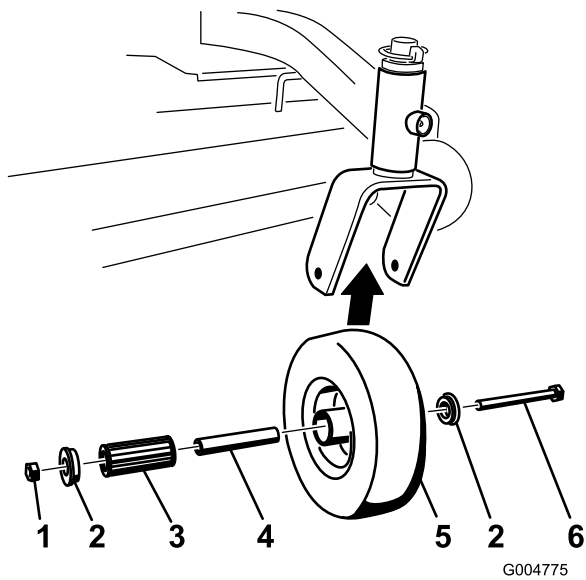

Figure 35
1. Remove the locknut and wheel bolt holding the caster wheel to the caster fork (Figure 35).
2. Remove one bushing, then pull the spanner bushing and roller bearing out of the wheel hub (Figure 35).
3. Remove the other bushing from the wheel hub and clean any grease and dirt from the wheel hub (Figure 35).
4. Inspect the roller bearing, bushings, spanner bushing and inside of the wheel hub for wear. Replace any defective or worn parts (Figure 35).
5. To assemble, place one bushing into the wheel hub. Grease the roller bearing and spanner bushing and slide them into the wheel hub. Place the second bushing into the wheel hub (Figure 35).
6. Install the caster wheel into the caster fork and secure with the wheel bolt and locknut. Tighten the locknut until the spanner bushing bottoms against the inside of the caster forks (Figure 35).